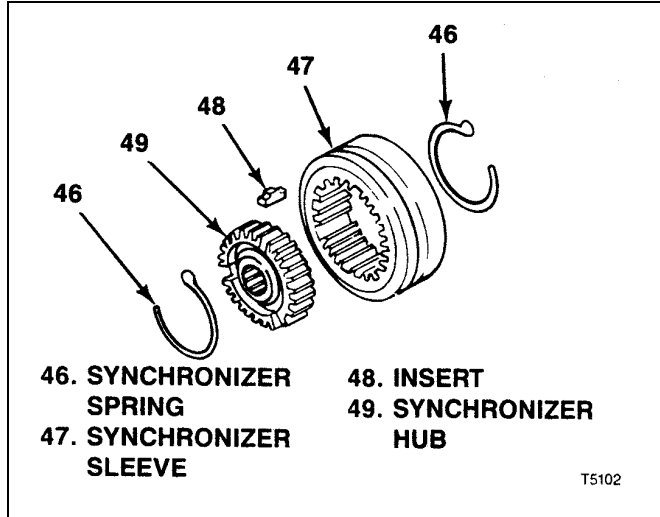

Figure 3-14. T5 WC 5th Synchronizer Assembly
**3-21- DISASSEMBLY OF T5 WC 3RD-4TH SYNCHRONIZER ASSEMBLY.** Mark synchronizer sleeve (80) and hub (82) so that clutch teeth and faces can be assembled exactly as they were originally. Sleeve and hub are a matched set, selected at manufacture. Disassemble as follows (see figure 3-14):
- a. Unhook and remove spring (79).
- b. Slide sleeve (80) from hub (82), freeing inserts (81).